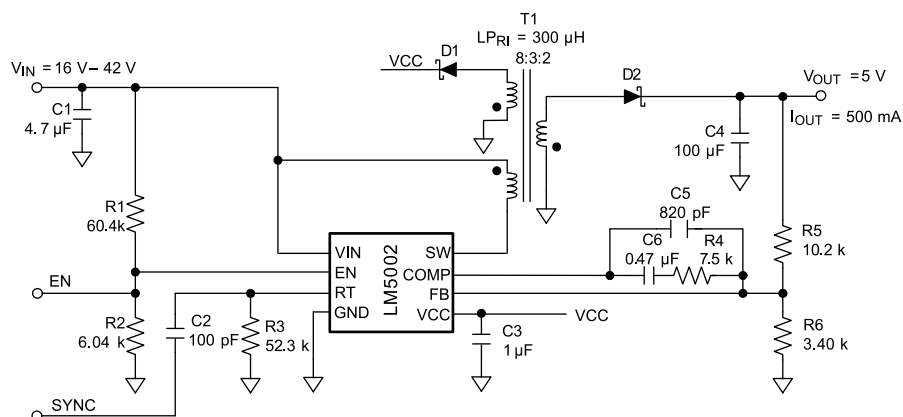

**Figure 8-4. Soft-Start Circuit**
Internal thermal shutdown circuitry is provided to protect the IC in the event the maximum junction temperature is exceeded. When the 165°C junction temperature threshold is reached, the regulator is forced into a low power standby state, disabling all functions except the VCC regulator. Thermal hysteresis allows the IC to cool down before it is re-enabled. Note that because the VCC regulator remains functional during this period, the soft-start circuit shown in Figure 8-4 must be augmented if soft start from thermal shutdown state is required.
Soft start (SS) can be implemented with an external capacitor connected to COMP through a diode as shown in Figure 8-4. The COMP discharge MOSFET conducts during Shutdown and Standby modes to keep the COMP voltage below the PWM offset (1.3 V), which inhibits PWM pulses. The error amplifier attempts to raise the COMP voltage after the EN pin exceeds the 1.26 V standby threshold. Because the error amplifier output can only sink current, the internal COMP pullup resistor (approximately 5 k $\Omega$ ) supplies the charging current to the SS capacitor. The SS capacitor causes the COMP voltage to gradually increase until the output voltage achieves regulation and FB assumes control of the COMP and the PWM duty cycle. The SS capacitor continues charging through a large resistance,  $R_{SS}$ , preventing the SS circuit from interfering with the normal error amplifier function. During shutdown, the VCC diode discharges the SS capacitor.